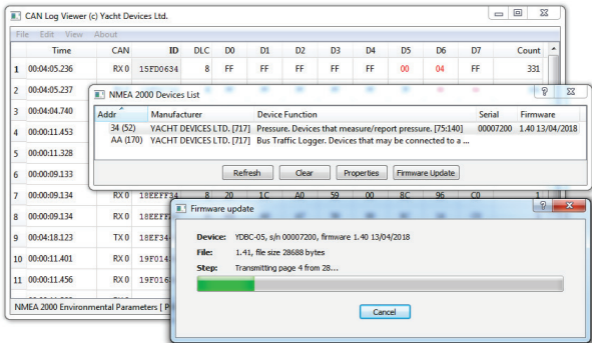

Figure 1. Firmware update of Barometer
2. Click the «Refresh» button (see Figure 1 at the next page) in the opened window and wait for the Device to appear in the list.